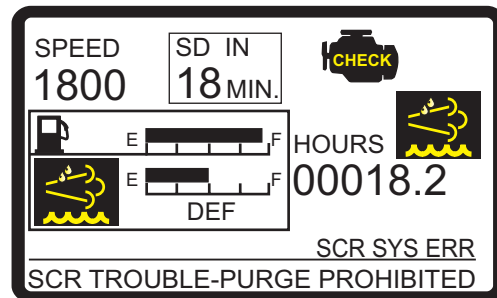

Figure 94. Escape Mode Timer
9. The **Escape Mode Timer** (Figure 94) will appear on the *main* screen. This timer displays the remaining Escape Mode operation time.